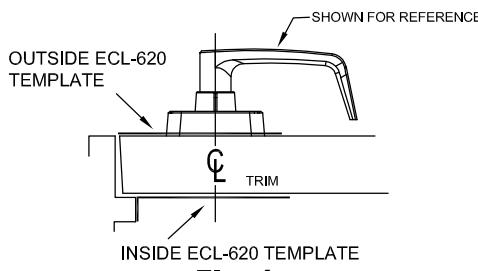
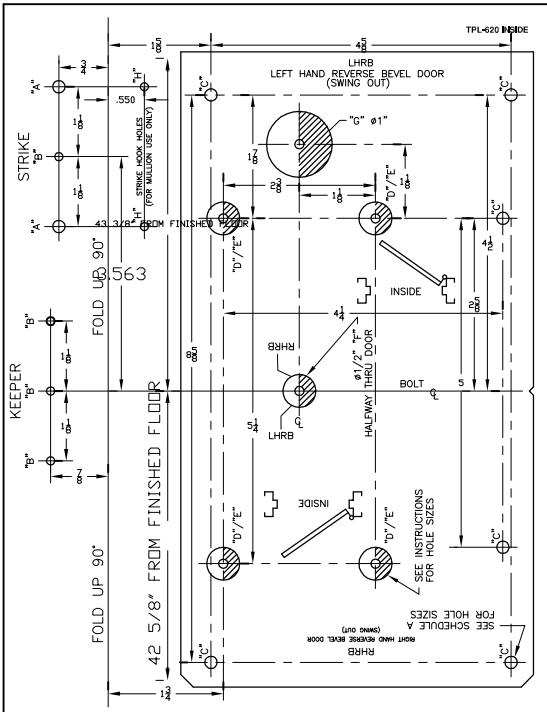

Fig. 4
Fig. 5
- 3. Orient the INSIDE template TPL-620 for proper door handing and tape to door per Fig 4. See Fig 5 for hole locations.**
- a. Mark, center punch and drill six (6) holes marked "C" on the door.**
- b. Mark, center punch, drill and tap the two (2) outer holes of the strike, marked "A" on the frame.**
- c. Mark, center punch, drill and tap the two (2)* outer holes of the keeper, marked "B" on the frame.**